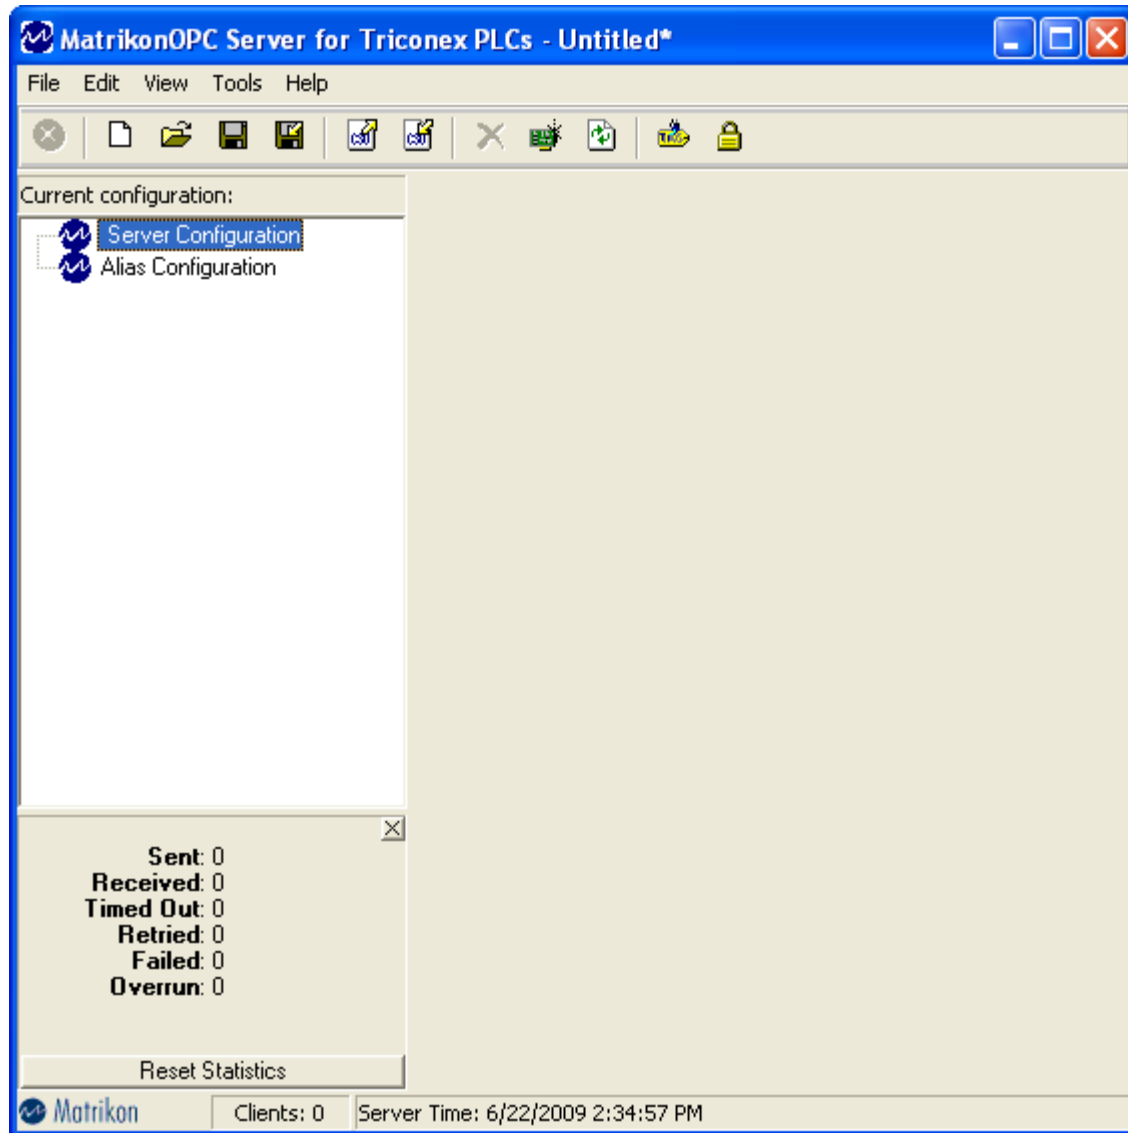

Figure 4 - Configuration Window
2. The **Configuration** window (Figure 4) appears.